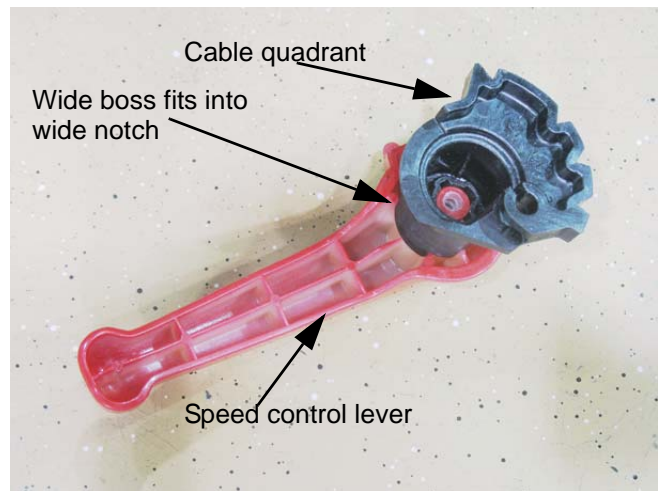

Figure 5.14
- 10d. Pay attention to the orientation of the lever to the control panel and the quadrant during reassembly. See Figure 5.14.